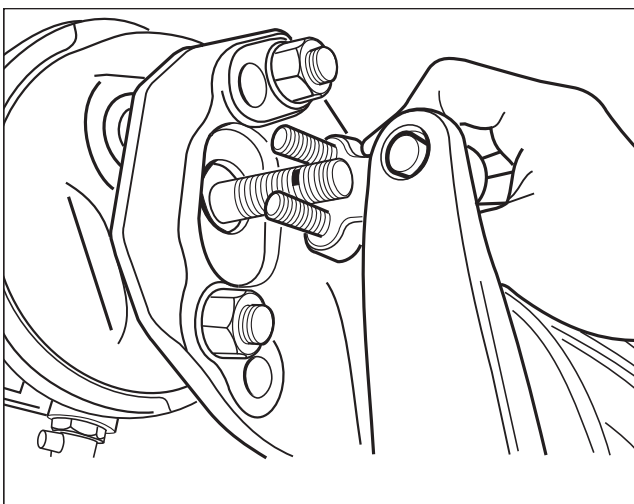

Fig. 3.11
11. Insert the clevis in correspondence of the previously marked done - Fig. 3.11